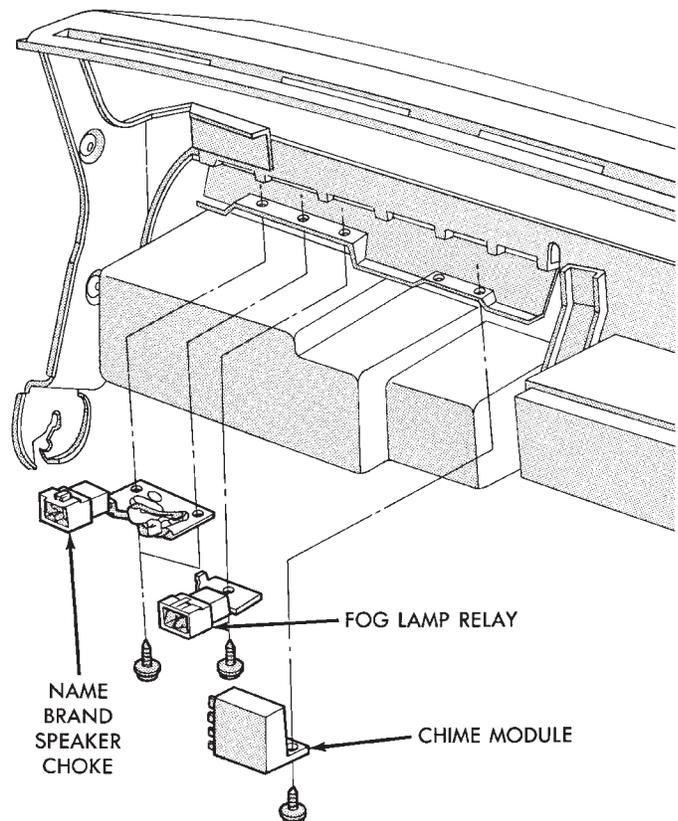

Fig. 49 Fog Lamp Relay
(1) Remove glove box assembly (Fig. 49). Refer to Glove Box Assembly Replacement.